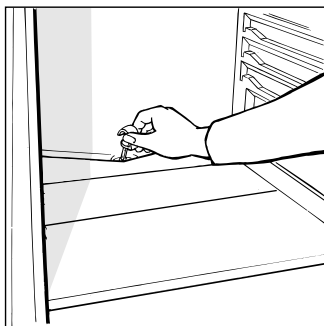

Fig. 4
This appliance defrosts automatically and the water is channelled to the back toward the drain installed for this purpose (fig. 4). Here, the heat produced by the compressor will make it evaporate. The only thing you must do is to periodically check and clean the hole of the drain, which is located behind the fruit and vegetable crisper, so that the water drains properly.
- The defrost drain is clear from any blockage (see fig.4).